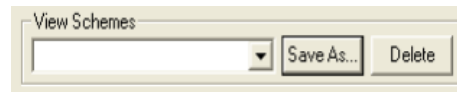
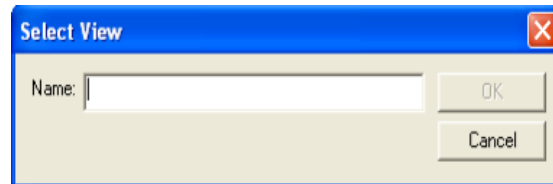

Figure 7. View Schemes Field
Figure 8. Select View Dialog Box
6. To create (and later select) multiple schemes or delete existing schemes, use the View Schemes field of the Criteria dialog box (see Figure 7).
- (a) After creating a new view scheme, click Save As (see Figure 7). The Select View dialog box displays (see Figure 8).